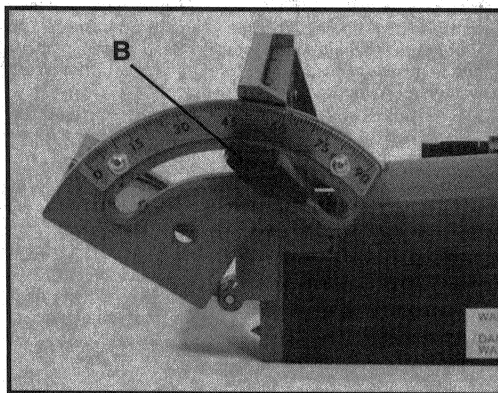

Fig. 4
2. To adjust fence angle, loosen knob (B), Fig. 4, and move fence until the desired angle is obtained and tighten knob to secure in this position.
2. Loosen knob (B) Fig. 4, and close tilt fence completely to "O" position. Tighten knob.